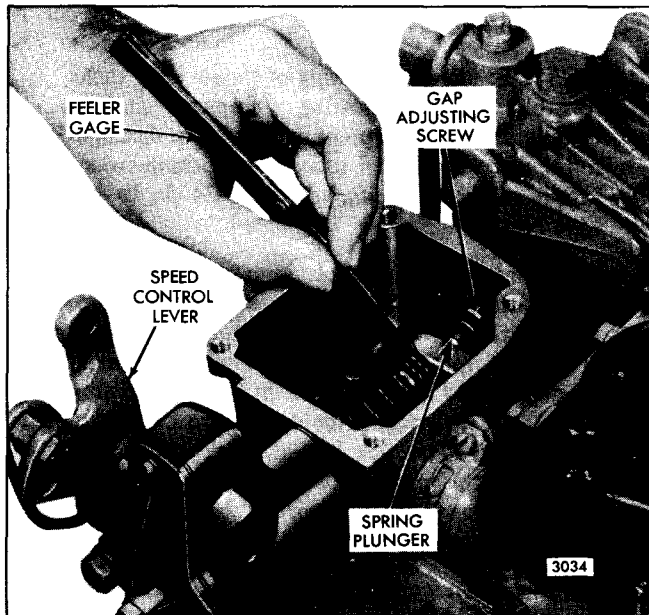

Fig. 1 - Checking Governor Gap
4. Place the speed control lever in the maximum speed position (Fig. 1).
5. Insert a .006" feeler gage between the spring plunger and the plunger guide (Fig. 1). If required, loosen the locknut and turn the gap adjusting screw in or out until a slight drag is noted on the feeler gage.